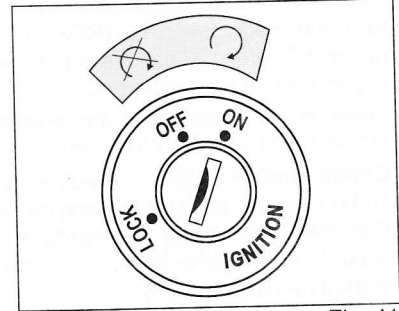

Fig. 11
**Un-locking the Handlebar :** Insert the key in ignition switch and turn it clock-wise to unlock the handlebar. To switch on the ignition turn the key further clock-wise to "ON" position (Fig. 11).
**To switch on the ignition:** turn the key further clockwise to 'ON' position (Fig.11)